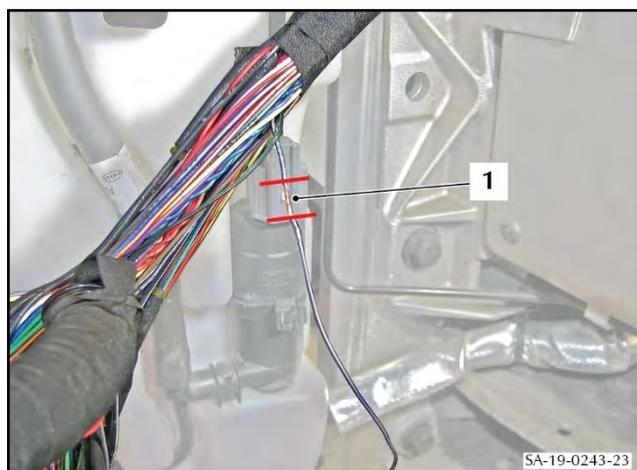

Figure 59
74. Remove a 10 mm section of insulation from the black/purple wire at the position shown in Figure 59.